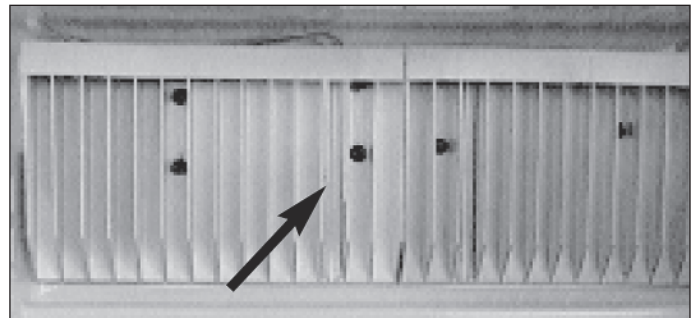

Figure 5-27.
12. Check position of thermostat capillary tube. Insertion length of capillary tube is approximately 3-15/16" (10cm). (See Figure 5-27)